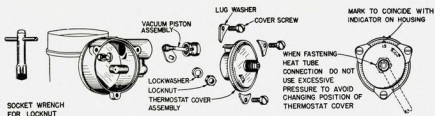

Fig. 13—Exploded View of Automatic Choke Used on 1900.
1. Remove carburetor air cleaner and thermostat cover assembly Fig. 13 and test operation of the choke valve. When closed by hand it should drop open freely without the slightest lag. If it does not drop freely remove and clean the vacuum piston and its cylinder with alcohol or acetone and do the same to choke valve shaft and bearings if necessary. Clean all of the choke passages with compressed air.